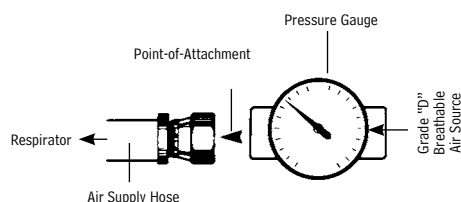

Figure 15
3. Adjust air pressure at point-of-attachment to within the approved pressure range (see Figure 15). See the Breathing Air Pressure Table (page 8) for approved pressure ranges.